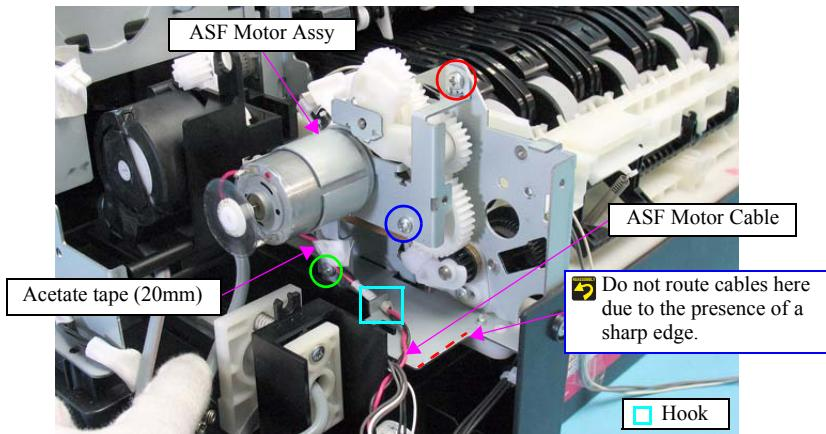

Figure 4-154. Removing the ASF Motor Assy
- Route the ASF Motor Cable as shown in Figure 4-154.